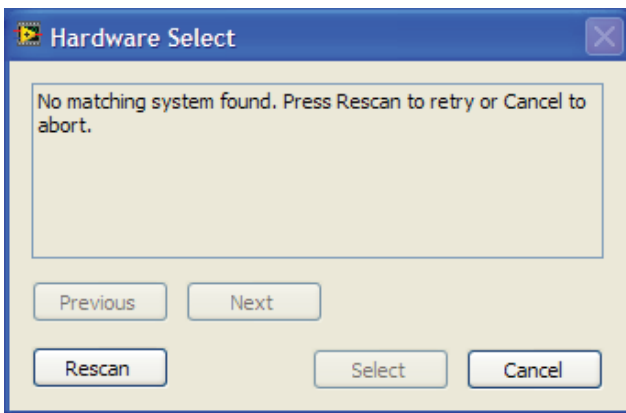

Figure 3. Pop-Up Window Error
Added Figure 3; Renumbered Sequentially4
2. If the SDP board is not connected to the USB port when the software is launched, a connectivity error displays (see Figure 3). Simply connect the evaluation board to the USB port of the PC, wait a few seconds, click **Rescan**, and follow the instructions.